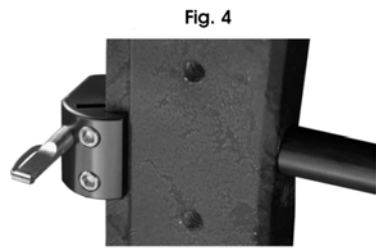

Fig. 4
3. The front of the Hydro-Strike riser features a machined dove-tail to accept an optional sight (#896) that slides on from the top and can be clamped to the correct place with its two clamp screws (See fig. 4).